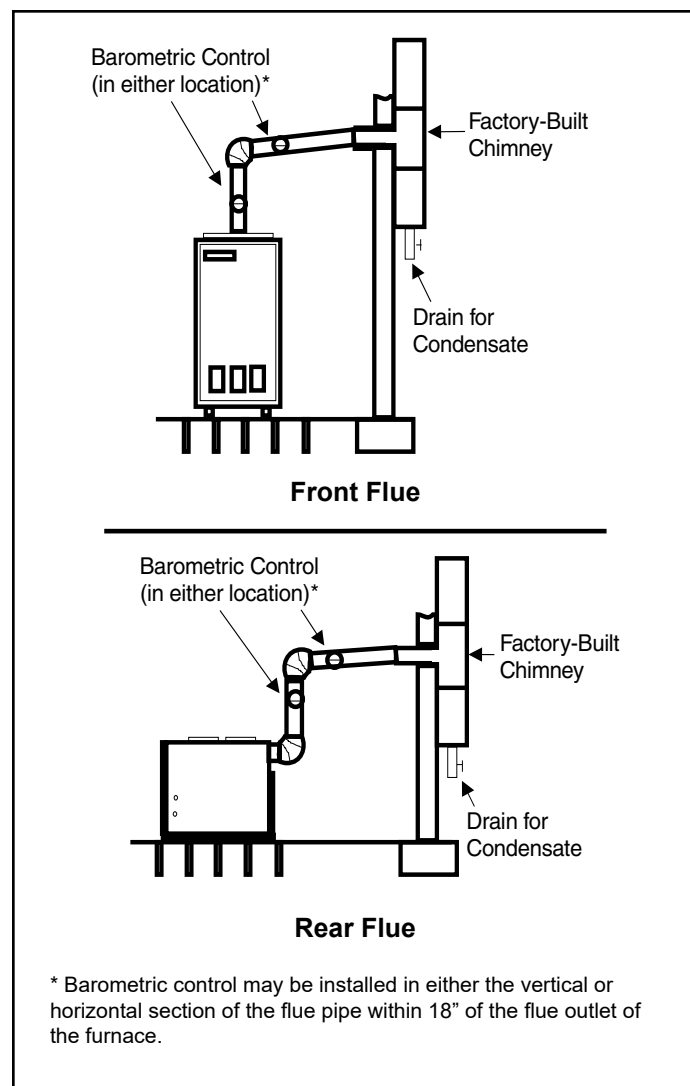
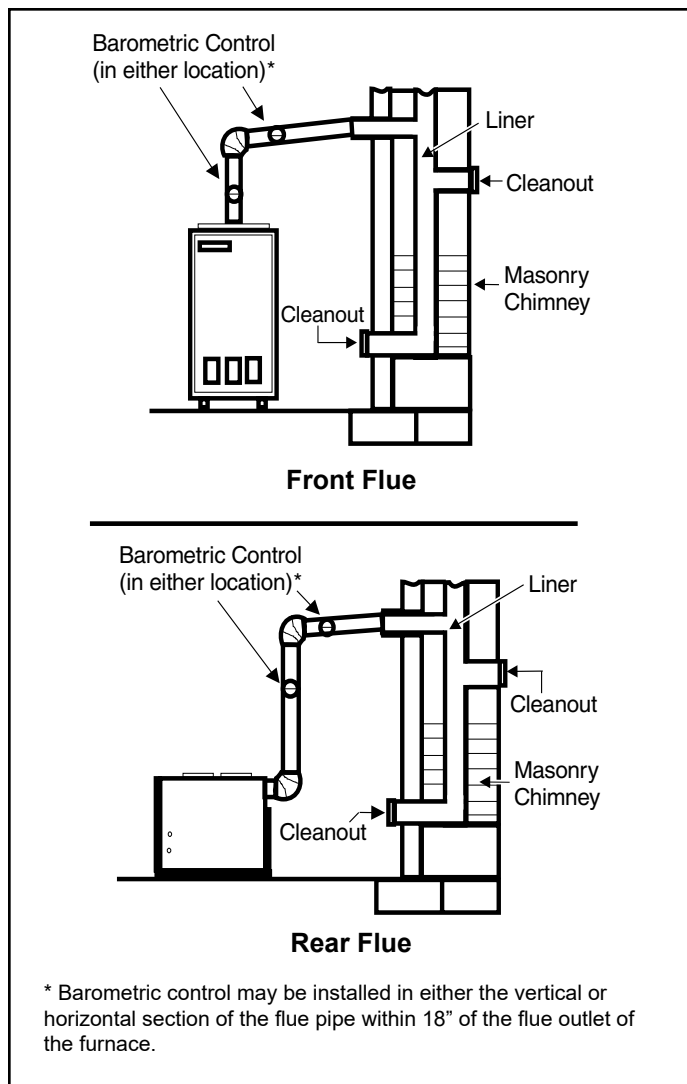

Figure 3. Factory-Built Chimney
Figure 4. Masonry Chimney
8. The flue pipe should slope upward toward the chimney on a horizontal run of at least 1/4" per foot and should be supported by something other than the furnace (see Figure 3 and Figure 4).
14. All vent pipe run through unconditioned areas or outside shall be constructed of factory-built chimney sections (see Figure 3).
15. Where condensation of flue gases is apparent, the vent shall be constructed to prevent the condensation from entering the flue transition box opening. Provisions shall be made to drain off the condensate (see Figure 3).